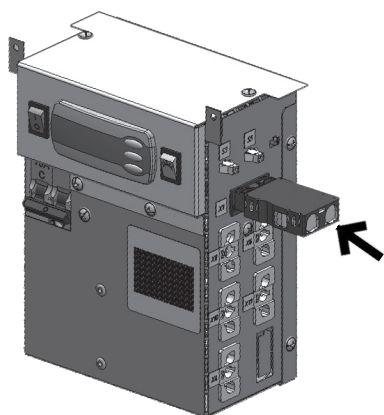

Fig. 37. Control unit
- on the control unit, remove the unplugged connector (Fig. 37);